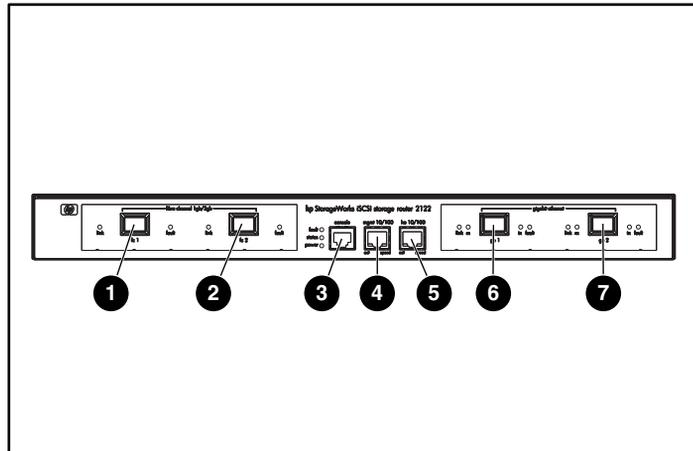

Figure 3: Storage router ports
The Storage Router provides two 1-Gigabit Ethernet ports, a console port, a 10/100 Ethernet management port, a 10/100 Ethernet high availability (HA) port, and two 1-Gigabit/2-Gigabit Fibre Channel ports (see Figure 3).
The Gigabit Ethernet ports are labeled GE 1 and GE 2 (see Figure 3). Each port provides a 1-Gigabit Ethernet interface for connecting to IP hosts that require access to storage. Each port uses a small form-factor pluggable (SFP) module for connection to the port's physical medium. See Appendix B, "Cable and Port Pinouts," for SFP module specifications. Each Gigabit Ethernet port has LEDs indicating its status, as described in the "Front Panel LEDs" section on page 5.
The console port is labeled CONSOLE. (see Figure 3) It is an EIA/TIA-232 interface for connecting to the serial port of a PC running terminal emulation software. Using the console port, you can manage the Storage Router with the storage router command line interface (CLI). The console port uses an 8-pin RJ-45 receptacle; it has no LEDs.
The 10/100 Ethernet management port is labeled MGMT 10/100 (see Figure 3). It is a 10BaseT/100BaseT Ethernet interface for connecting to a management network. Through a management network, you can manage the Storage Router using the CLI, the web-based GUI, or SNMP. The 10/100 Ethernet management port uses an 8-pin RJ-45 receptacle and has LEDs indicating its status, as described in the "Front Panel LEDs" section on page 5.
The 10/100 Ethernet high-availability (HA) port is labeled HA 10/100 (see Figure 3). It is a 10BaseT/100BaseT Ethernet interface for connecting to an HA network. The port allows the Storage Router to function in a multiple-node cluster with other Storage Routers to provide fault-tolerant operation. The 10/100 Ethernet HA port uses an 8-pin RJ-45 receptacle and has LEDs indicating its status, as described in the "Front Panel LEDs" section on page 5.
The Fibre Channel ports are labeled FC 1 and FC 2 (see Figure 3). Each port provides a 1-Gigabit/2-Gigabit Fibre Channel interface for connecting to storage systems, Fibre Channel switches, Fibre Channel hosts, or other HP storage networking products. Each Fibre Channel port can be configured as one of the following port types: G_Port, GL_Port, F_Port, FL_Port, or TL_Port. Each port uses a small form-factor pluggable (SFP) module for connection to the port's physical medium. See Appendix B, "Cable and Port Pinouts," for SFP module specifications. Each Fibre Channel port has LEDs indicating its status, as described in the "Front Panel LEDs" section that follows.